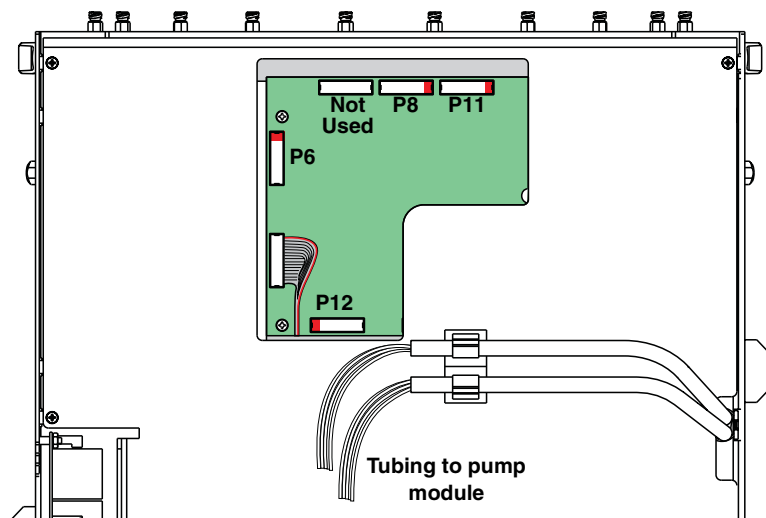
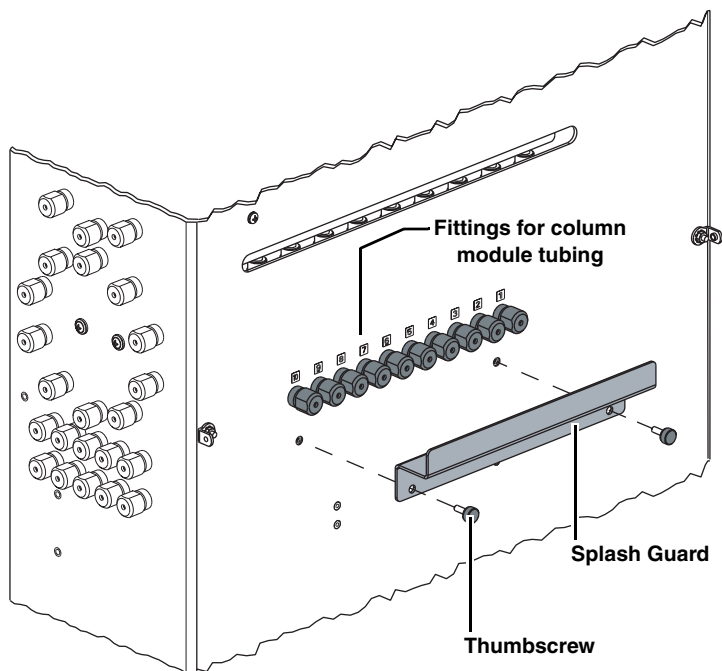

Figure 2-9 Ribbon cable connections
Figure 2-10 Liquid connections
9. The remaining ribbon cable connections are routed from the top of the pump module through the opening on the back plate of the column module. Refer to Figure 2-9 and complete the connections, matching the connector labels.
10. Connect the tubing from the column module to the pump module. Refer to Figure 2-10.
The tubing numbers from the column module match the numbers above the compression fittings on the pump module. (The tubing is visible in Figure 2-9; the compression fittings are visible in Figure 2-10.)